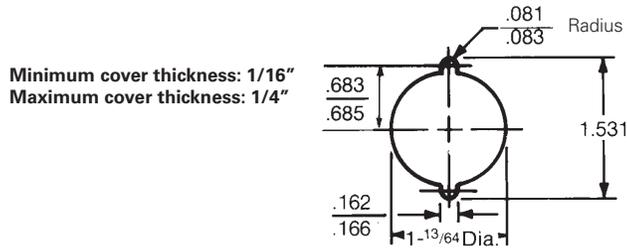

Figure 1 – hole pattern
1. Remove front cover from enclosure. For field addition, prepare cover hole in enclosure following hole pattern diagram in Figure 1.